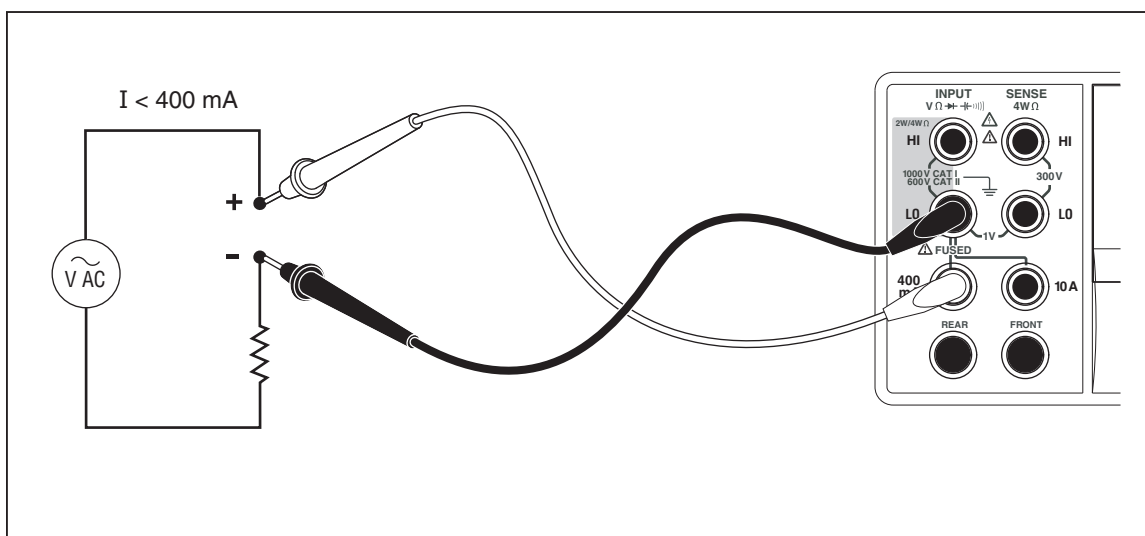

Figure 4-4. Input Connections for Current Measurements Below 400 mA
The Meter is capable of making both ac and dc current measurements up to 10 A. Two separate input connectors, in conjunction with the **LO** connector, are used for current measurements. For best resolution, current measurements not exceeding 400 mA should be made using the **LO** and **mA** input connectors as shown in Figure 4-4.
1. Connect the test leads between the Meter’s input connectors and the measured circuit as shown in Figure 4-4 for currents 400 mA or less or Figure 4-5 for currents up to 10 amps.
1. Connect the test leads between the Meter's input connectors and the measured circuit as shown in Figure 4-4 or Figure 4-5, based on the anticipated level of current.